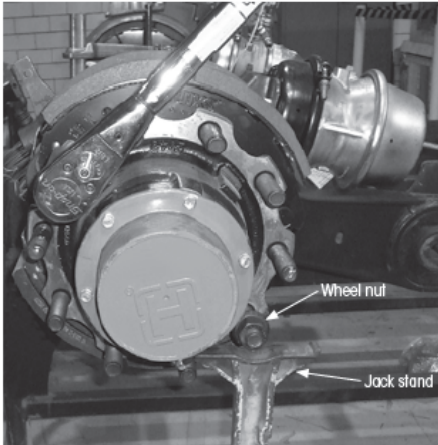

Figure 6: Stud draw-in process
- 6. Complete stud draw-in process using a torque wrench set to 300 ft. lbs. (407 Nm) (Figure 6). With threads protected by a nut, a jack stand can be used to prevent the hub from turning, as shown in Figure 6.